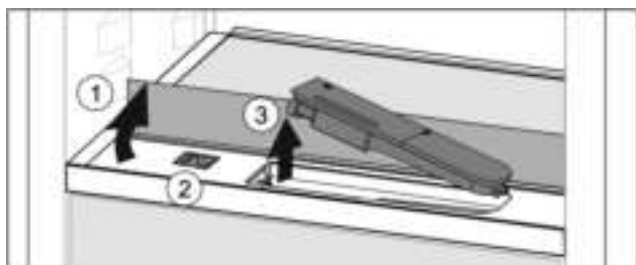

Fig. 36
- ▶ Lift the glass panel and fold towards the rear until it clicks into place Fig. 36 (1).
- ▶ Slide the slider Fig. 36 (2) to the left.
- ▶ Remove the water tank Fig. 36 (3).